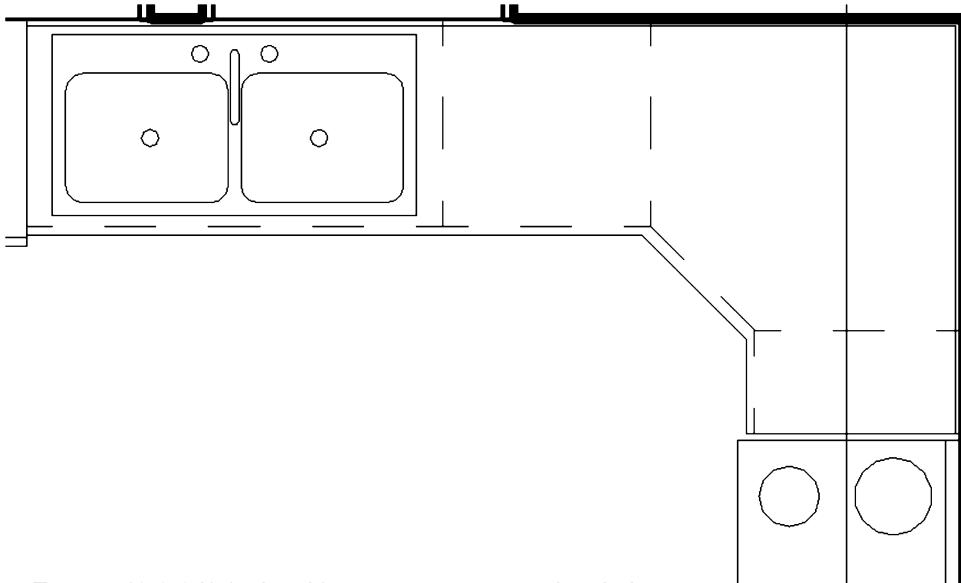

FIGURE 12-2.4 Sink placed in countertop, centered on hole
8. Using the *Component* tool, add **Sink Kitchen-Double: 42" x 21"** to your project – centered on the sink hole (Figure 12-2.4).